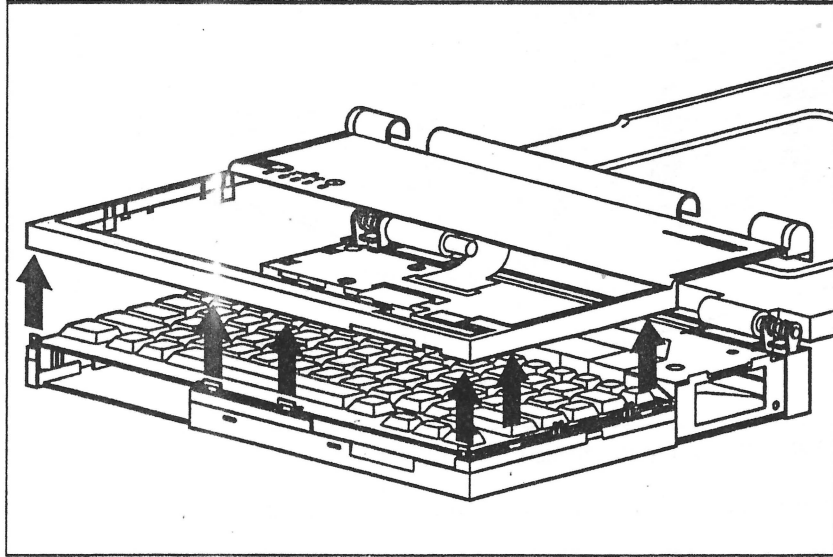

Figure 2-7. Removing the System Unit Cover from the Computer
5. Grasp the system unit cover above the option area. Lift up on the system unit cover and pry open the snaps in front of the option area. Pull the system unit cover off of the CPU base (Figure 2-7).